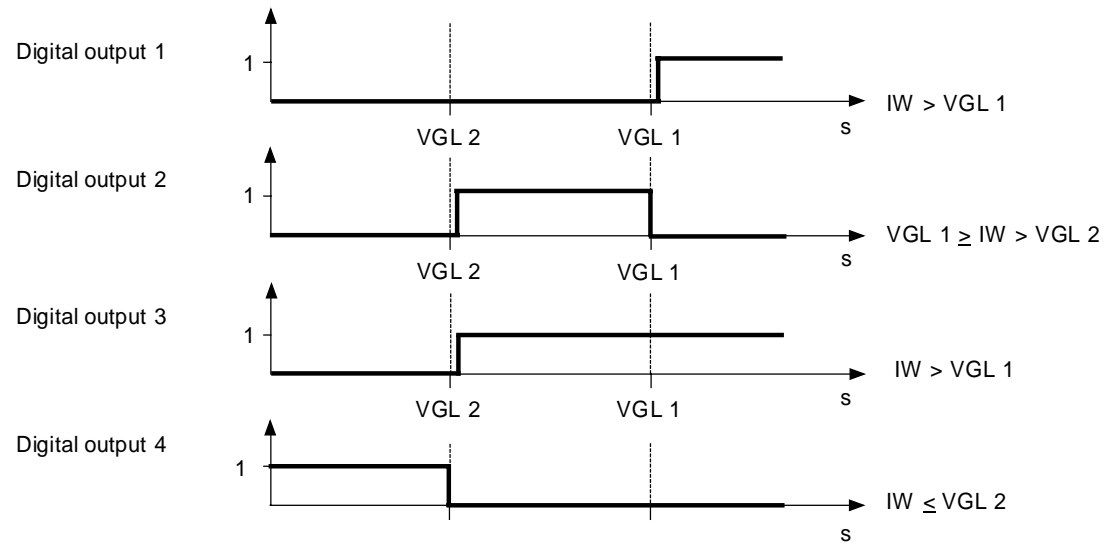

Figure 3.11 Behaviour of the outputs in position decoding variant 2 DIR = 1 (backward); VGL 1 > VGL 2
- Backward (DIR = 1): VGL 1 > VGL 2 (see figure 3.11)